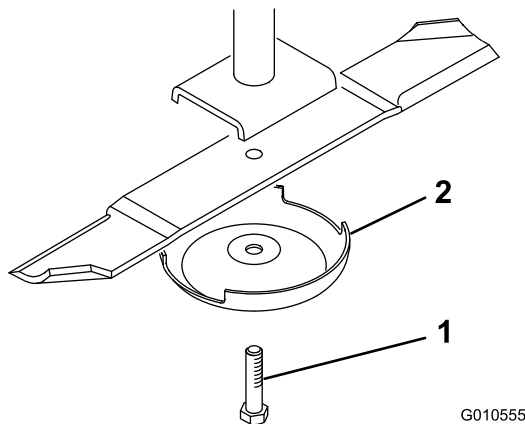

Figure 24
4. Grasp the end of the blade using a rag or thickly padded glove. Remove the blade bolt, anti-scalp cup, and blade from the spindle shaft (Figure 24).